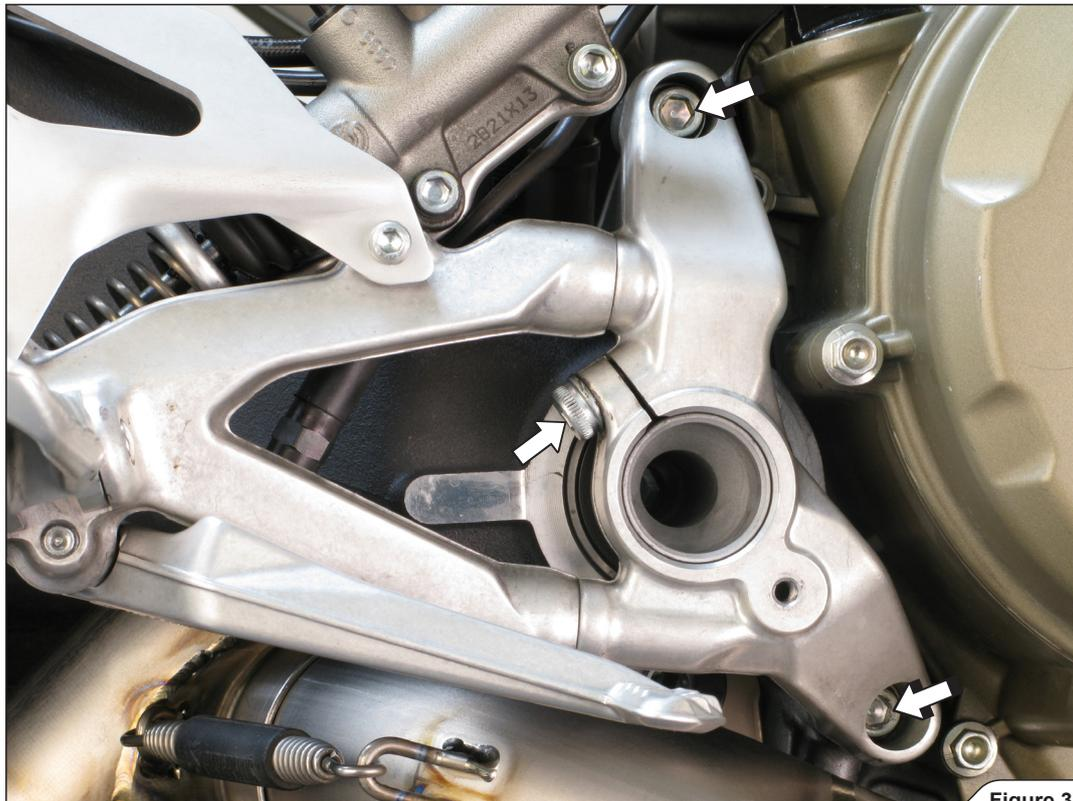

Figure 37
11. Unscrew the marked bolts and partially remove the right rider's foot rest (Figure 37).